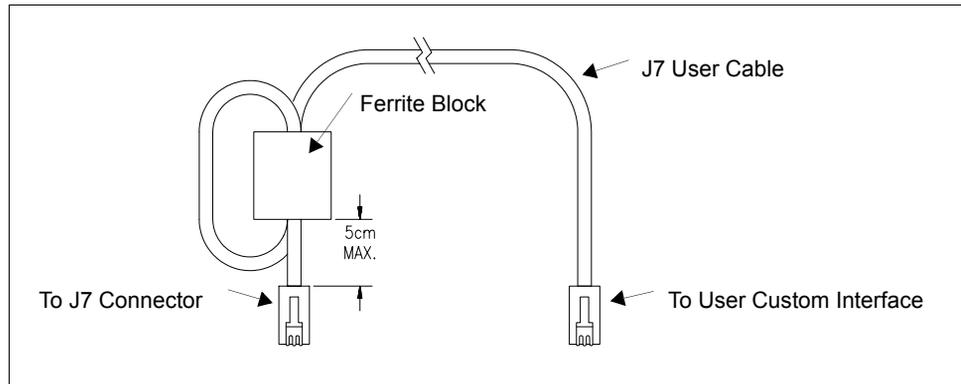

Figure 2.6 J7 User Cable with Ferrite Block
3. Loop the cable through the ferrite block. See Figure 2.6, “J7 User Cable with Ferrite Block” on page 32.